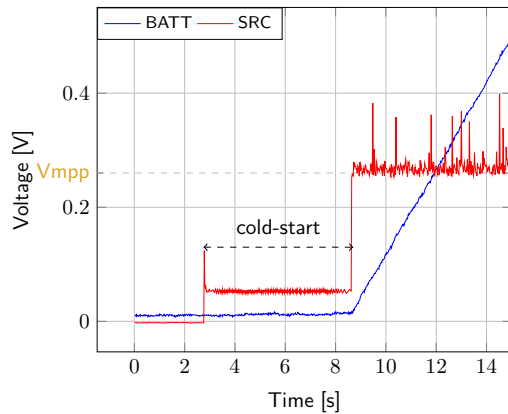

Figure 6: AEM20940 behaviour during cold start
3. **SRC**: Connect your source element. To match Figure 6 voltages, set the **source compliance to 500 mV**. This is to ease differentiating the cold start voltage (about 60 mV) from the MPP voltage ($50\% \cdot 100 \text{ mV} = 50 \text{ mV}$).
- **SRC**: Equals to the cold-start voltage during the cold-start phase. Regulated at the selected MPPT percentage of V_{oc} when cold start is over (see Figure 6). Be careful that the cold-start phase time will shorten with the input power. Limit it to ease the observation.
- **BATT**: Starts to charge when the cold-start phase is over (see Figure 6).